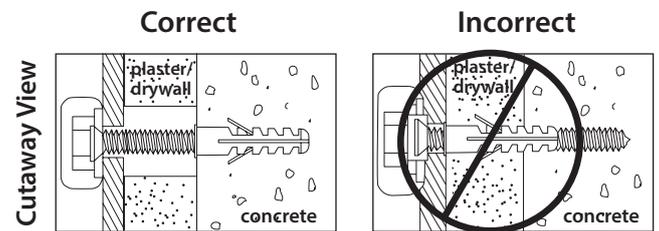

Figure 2
- Pre-drill six holes into concrete using 3/8" drill bits to a depth of 2 1/2". Insert concrete wall anchors and tap in with a hammer if necessary (Figures 2 & 3).